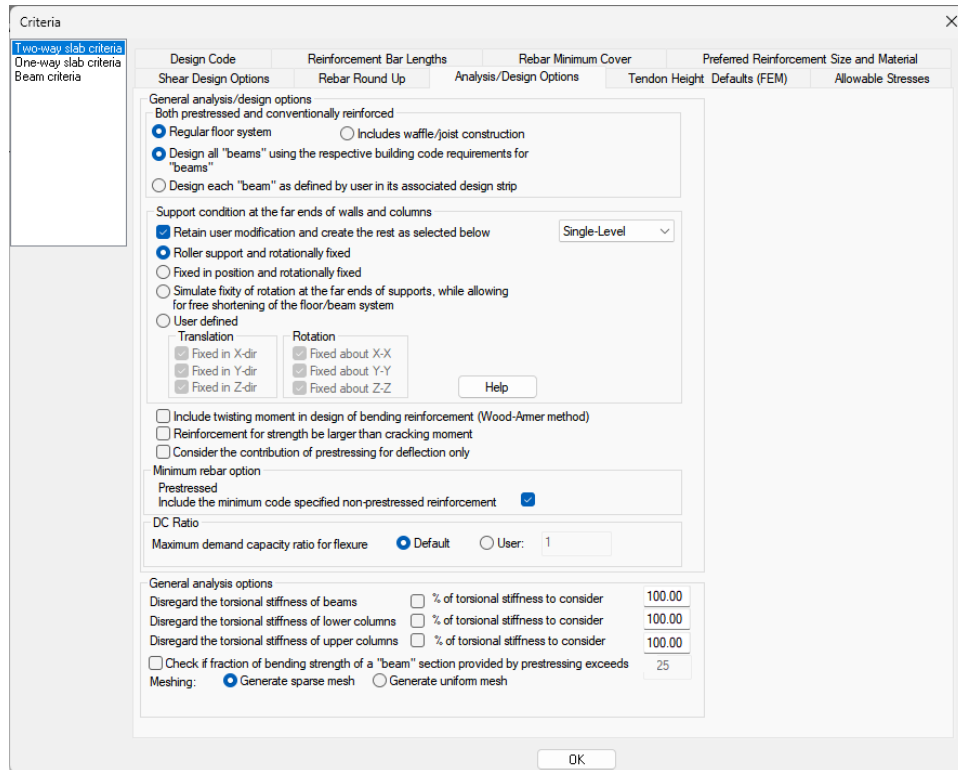

FIGURE 2-16
- Click on the **Analysis/Design Options** tab. This will open the window from **FIGURE 2-16**.